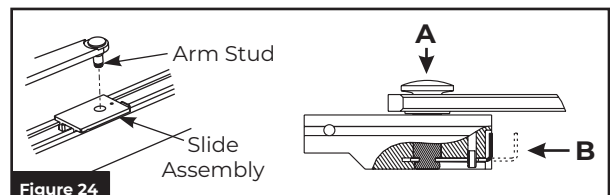

Figure 24
- Insert stud on arm into slider in track by pressing clip on backside of slider onto stud. (Figure 24)